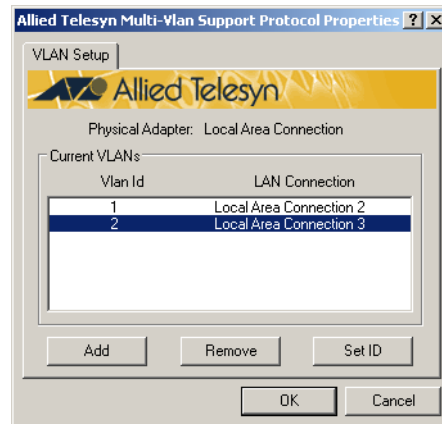

Figure 91 VLAN Setup Window (1 of 2)
4. The window shown in Figure 91 is displayed.